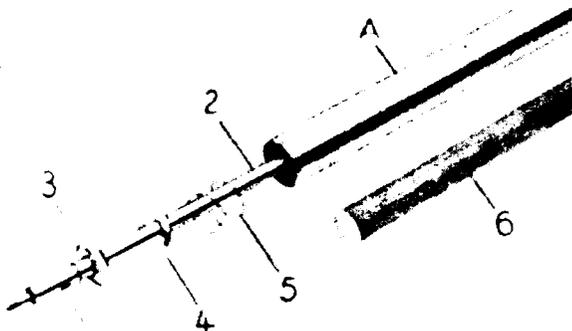

Fig. 17. Removing the throttle valve
- (1) Circlip
- (2) Thrust washer
Remove the lock ring (1) and the thrust washer (2). Use a piece of round timber (Fig. 17/6 about 600 mm long and having a diameter of 22 mm, push the supporting tube downwards (fitting direction of the telescopic fork) out of the guide tube.
Insert the valve spring (Fig. 17/5) with the large diameter pointing to the lock ring and the valve plate (Fig. 17/4) with the ground side pointing to the throttle. Fasten the throttle (Fig. 17/3) by means of the circlip (Fig. 17/1).